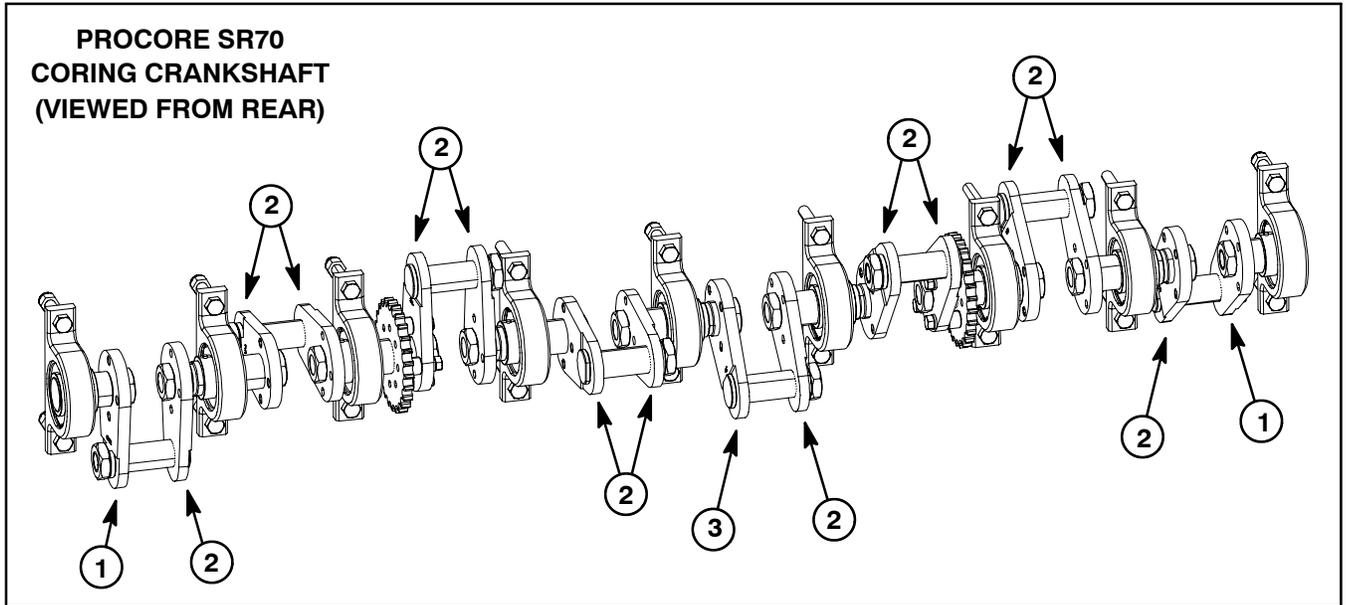

Figure 10
The ProCore SR70 coring crankshaft uses three (3) different crank arms. For identification purposes, the crank arms and crankshaft timing are shown in Figure 10. Refer to your Parts Catalog to identify part numbers for crankshaft components.